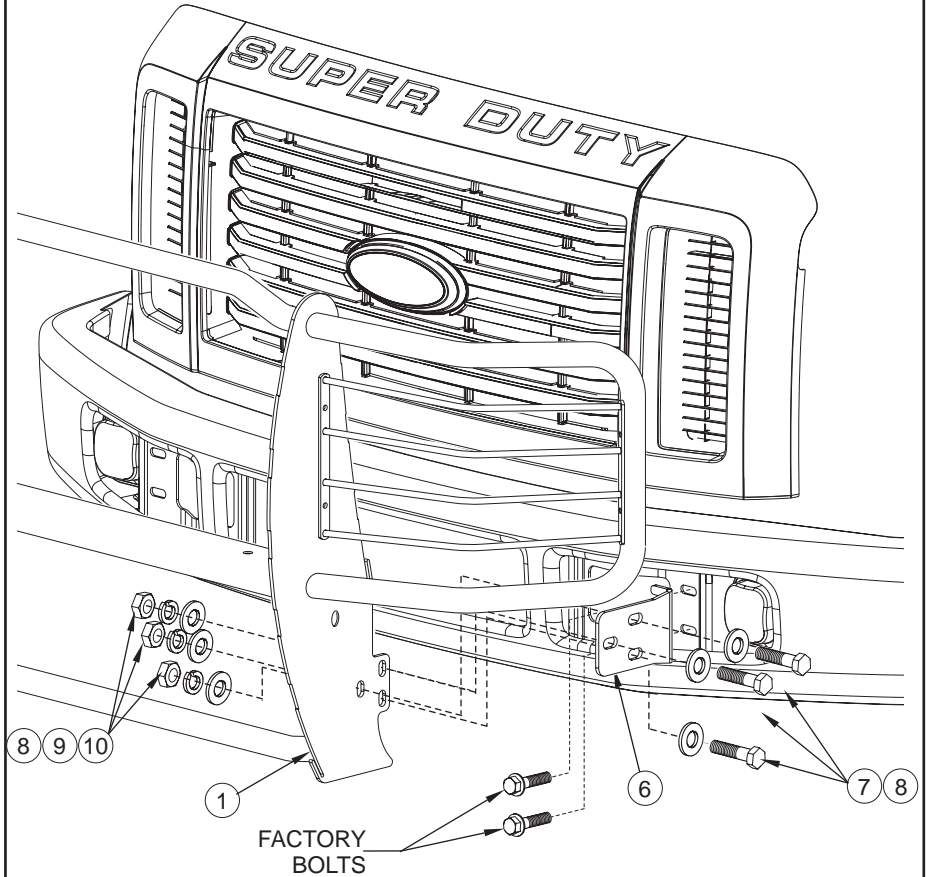

FIGURE 3
- STEP 7. Lift hood slowly to check if grille clears top tube. If not, adjust Sportsman assembly properly to clear. Leave hood up and locate top bracket mounting locations. **SEE FIGURE 3.** Remove factory bolts and place brackets into position, put factory bolts back in. Leave lose. Use 3/8" fasteners to attach top brackets to uprights. **SEE FIGURE 4.** Leave loose.